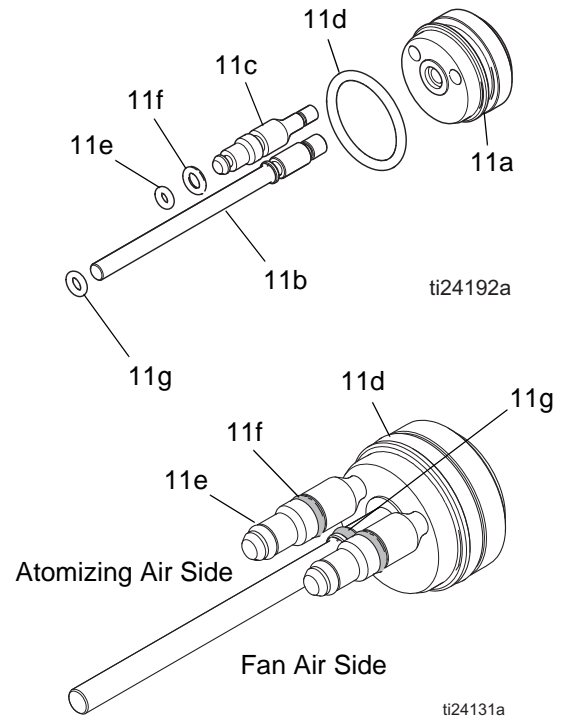

FIG. 32. Piston O-Rings
4. Remove piston cap (13) from the rear of the gun.
5. Push on the piston rod (11) to push the piston out the back of the gun.
6. Inspect the o-rings (11d, 11e, 11f, 11g) for damage. See Table 3 and FIGURE 32.